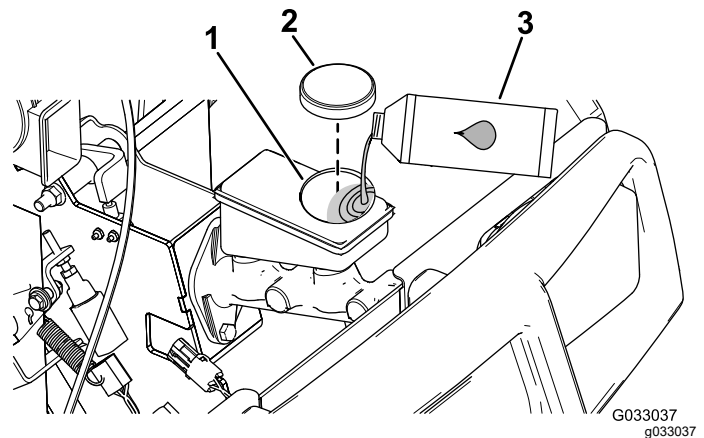

Figure 51
4. Raise the hood to access to the master brake cylinder and reservoir (**Figure 51**).
- A. Clean the area around the reservoir cap and remove the cap (**Figure 51**).
- C. Install the reservoir cap (Figure 51).